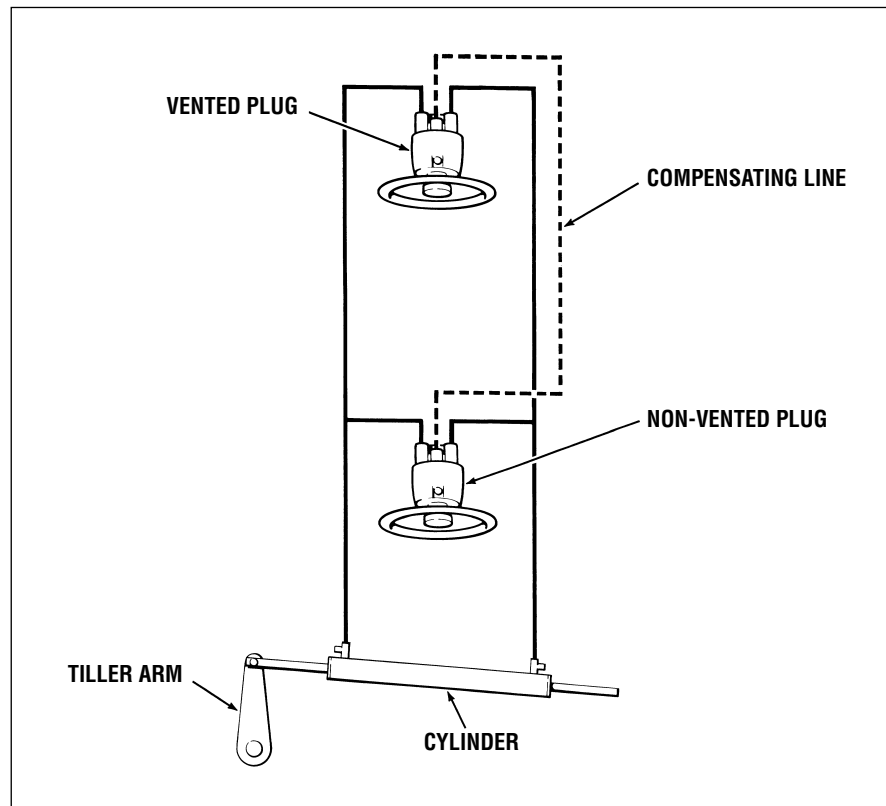

Figure 21. Dual Station.
- 1 Refer to figure 21 on page 16 for hose/tube to fitting connection.